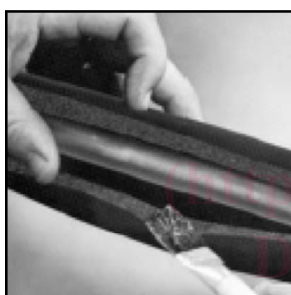

FIG. 3 Apply Unslit Insulation to Straight Pipe
10.1.1 Slit tube in a straight line (Fig. 3). Apply a thin brush coat of contact adhesive to each seam. Slip the insulation over the pipe. Allow adhesive to properly set and press seams